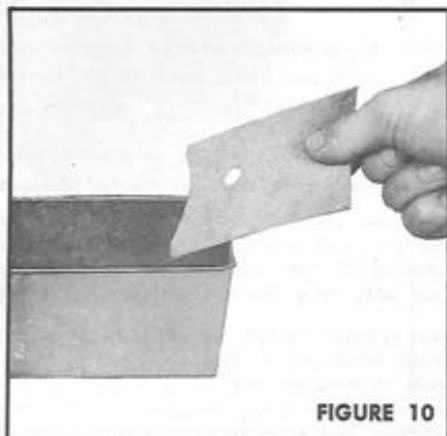

FIGURE 10
1. **AIR CLEANER:** Your air cleaner is the specially processed filter element which fits securely on top of the air box and immediately under the top cover. To service, with a screw driver turn the centrally located screw one half turn to the left which releases the catch and the cover can be lifted off. Remove the screen and wash in clean gasoline or solvent then tap lightly to remove all moisture. (Figure 10). While the filter element is off, wipe all accumulated dust away from the carburetor. This will prevent many carburetor problems at a later date.